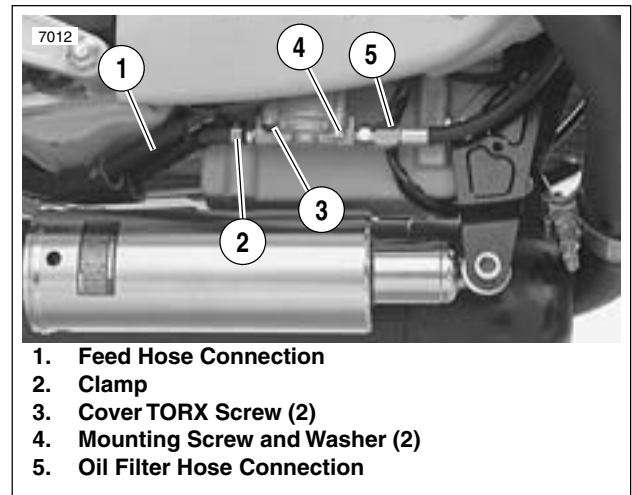

Figure 3-55. Oil Pump Hardware (Typical)
2. See Figure 3-55. Disconnect feed hose (1) and oil filter hose connection (5).
9. See Figure 3-55. Attach return hose connection.
10. Secure pump to crankcase with mounting screws (4). Tighten to 125-150 **in-lbs** (14-17 Nm).
11. Attach feed hose (1) and oil filter hose connection (5).
12. Attach clamp (2) to hose.